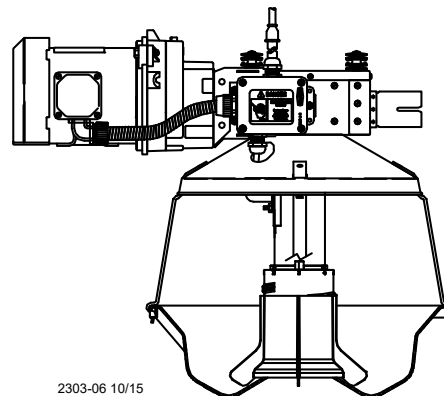

Figure 34. Switch Installation
7. Insert the flex cable that is attached to the Control Switch through the hole in the Control Unit Pan Shield and attach the romex connector to the handy box, (See **Figure 34**).